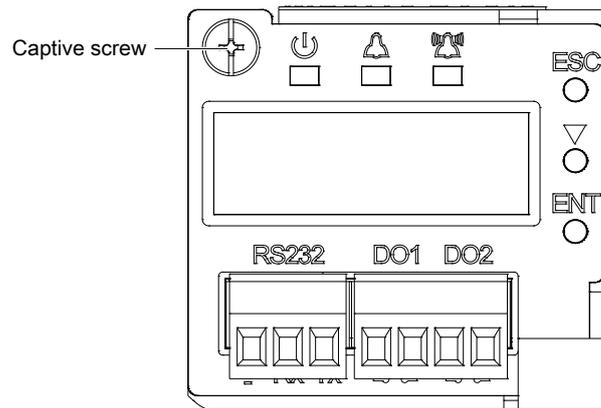

Figure 4-2 Replacing controller (1)
2. Loosen the captive screw of the controller, as shown in Figure 4-2.